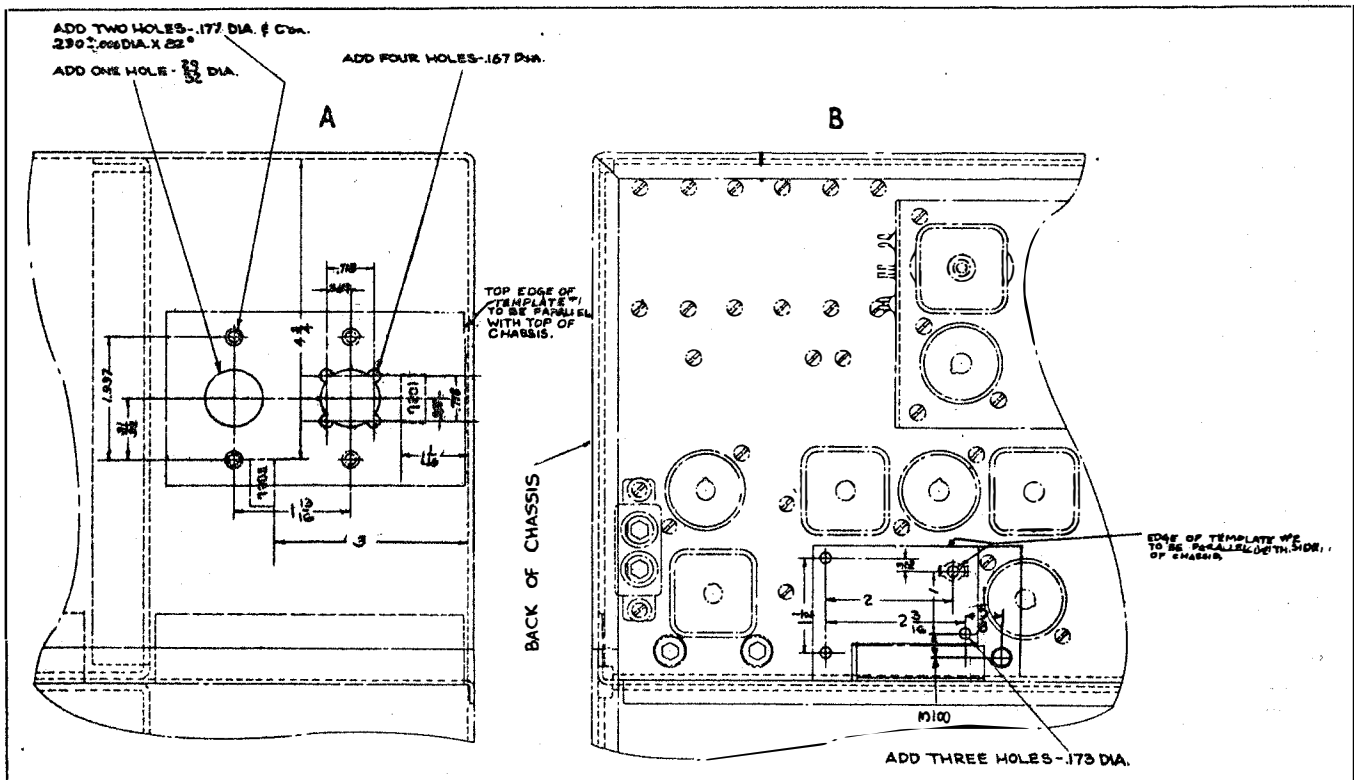

Fig. 3-4 Coupling Kit. Receiver Chassis Drilling
c. CHASSIS DRILLING. (See Fig. 3-4)